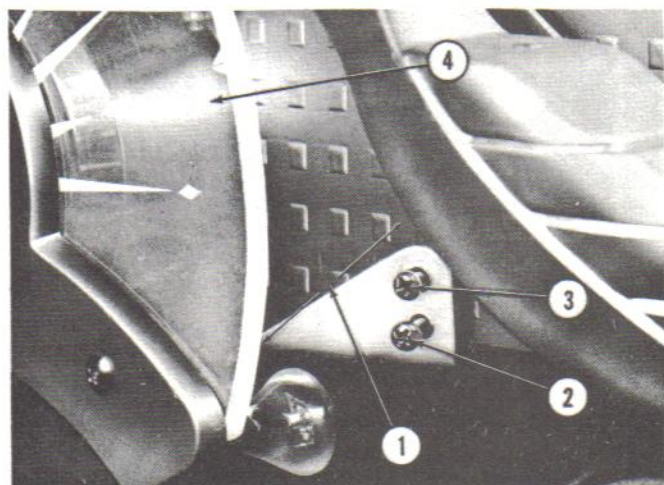
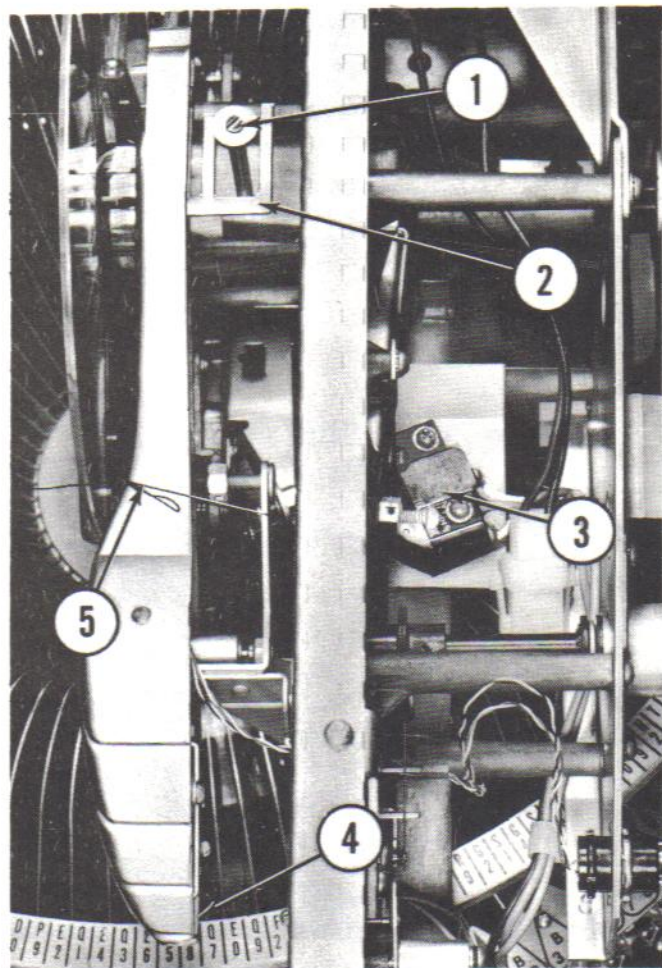

Fig. 61. RECORD GUIDE AND SAFETY SWITCH ADJUSTMENT
Fig. 70. TONE ARM BALANCE ADJUSTMENT
The record guide assembly (Fig. 61, Item 4) is a pivoted assembly, spring loaded to hold it in alignment with the records as they are delivered to
(1) The record guide assembly is normally adjusted to be parallel to the top support casting as shown in Figure 61, Item 1, by the screw (Item 2). There may be conditions where the record delivery will be improved by some realignment of the record guide. Should any change be made in the setting of the adjusting screw (Item 2), then the safety switch actuating screw (Item 3) should be adjusted. This may be accomplished by backing out the screw (Item 3) until the safety switch (Fig. 70, Item 3) opens. Turn the actuating screw in until the switch closes and continue one full turn to two full turns for over-travel.
(4) The tone arm balance adjustment should be made with the mechanism in play position, no record on the turntable and the service switch "off." Using a piece of thread (Fig. 70, Item 5), tie the tone arm in a position where the latch bracket (Item 2) clears the feed-in screw (Item 1). Measure at the pickup end of the tone arm, using a gram scale such as Graybar 70-D, the pressure needed to move the tone arm up or down. When correctly balanced by the adjusting screw (Item 4) the arm should move with no more than one gram pressure in either direction.